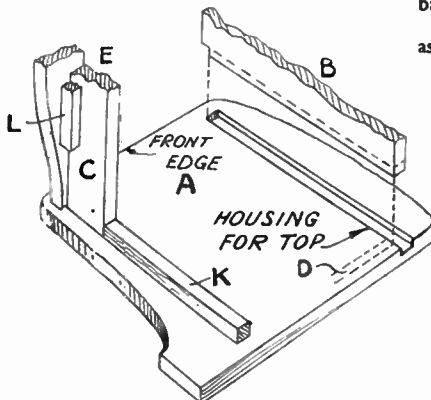

Fig. 2—Under view of parts
Along the front of rail (C) goes the front shaped rail (E). This is simply screwed on with its top edge flush with the top surface of rail (C), as seen in Figs. 2 and 4. Countersunk screws are again used here with heads filled.